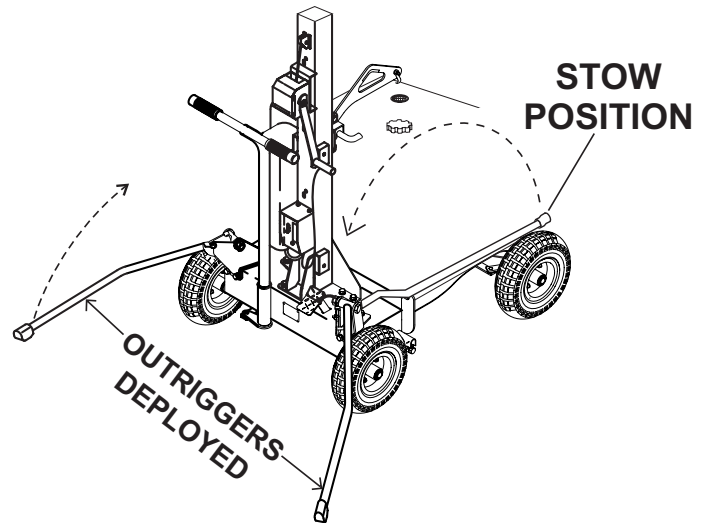

Figure 9. Outriggers (Deployed Position)
3. Lift up on each outrigger (2) from its stow position, rotate backwards and place it in the deployed position, as shown in Figure 9. The outriggers will automatically lock in place once they touch the ground,